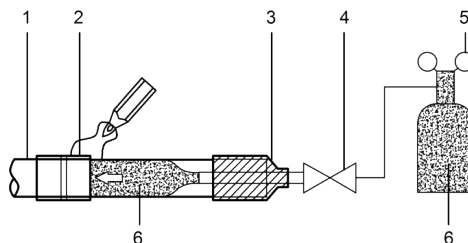

Figure 15.
- When the pipe is filled with nitrogen during welding, the nitrogen must be reduced to 0.02 MPa using the pressure release valve. See Figure 15.